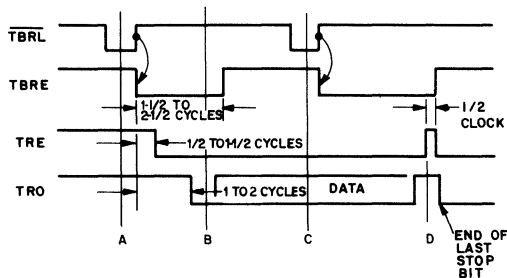

Fig. 3 - Transmitter timing waveforms.
Transmitter timing is shown in Fig. 3. (A) Data is loaded into the transmitter buffer register from the inputs TBR1 through TBR8 by a logic low on the TBRL input. Valid data must be present at least t_{DT} prior to, and t_{TD} following, the rising edge of TBRL. If words less than 8 bits are used, only the least significant bits are used. The character is right justified into the least significant bit, TBR1. (B) The rising edge of TBRL clears TBRE. 1/2 to 1 1/2 cycles later, depending on when the TBRL pulse occurs with respect to TRC, data is transferred to the transmitter register and TRE is cleared. TBRE is set to a logic High one cycle after that.